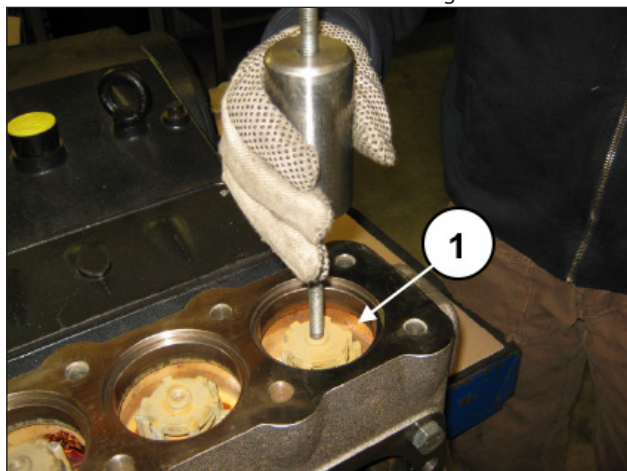

Fig. 95
- D) Extract the outlet valve guide, spring and ball valve with an extractor hammer (code 27516400) to be applied on the M10 hole of the valve guide (pos. ①, Fig. 95) or, in addition, an M10-M16 adapter (code 25089700) to be attached to the M16 thread of the valve guide.